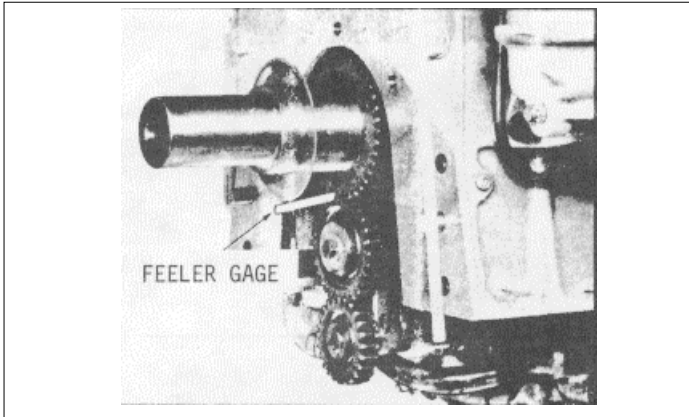

Fig. 10
- (1) Hold the pump assembly against the main bearing caps so the idler gear (56) meshes with the driving gear on the crankshaft.
- (2) Insert the four bolts (55) with lockwashers through the mounting feet of the pump and into the bearing caps (39). Align the pump so that the teeth of crankshaft gear and the idler gear are parallel; then tighten the bolts to 35-39 ft-lbs and check clearance between the gear teeth with a feeler gauge. Proper clearance between the crankshaft gear and idler gear is .005" minimum, .012" maximum (Fig. 10).